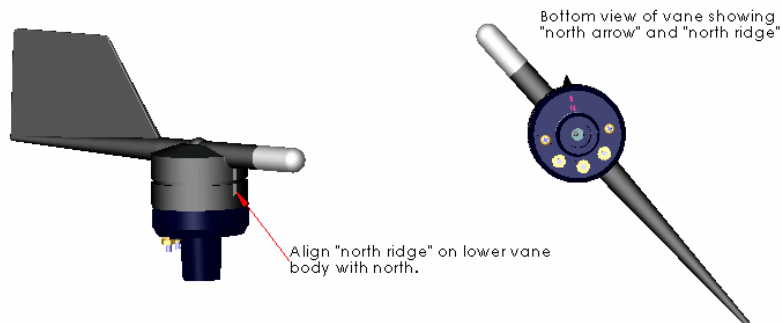

Figure 4
8. Attach the wind vane with the north arrow index mark on the base pointing in the same direction as the north mark on the compass. The #200P wind direction vane is designed to mount with a cotter pin and set screw to a NRG sensor mounting boom. The cotter pin installs horizontally through drill holes in the boom and vane, allowing the base of the vane to point in one of two directions, toward the tower or away from the tower. See Figure 4.